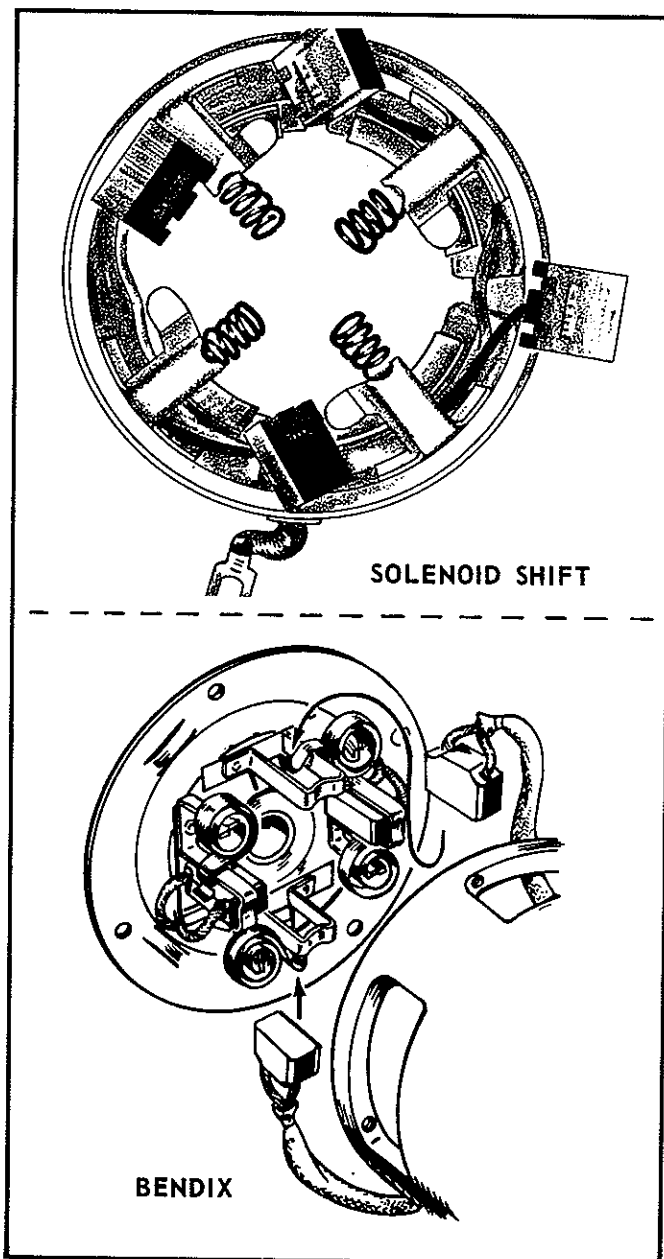

FIGURE 18-13. BRUSHES
7. Remove the brushes from the brushholder and inspect them. Replace brushes that are worn to one half of their original size. Remove the brush springs from the holder and examine them. Replace brush springs that appear abnormally weak (Figure 18-13).